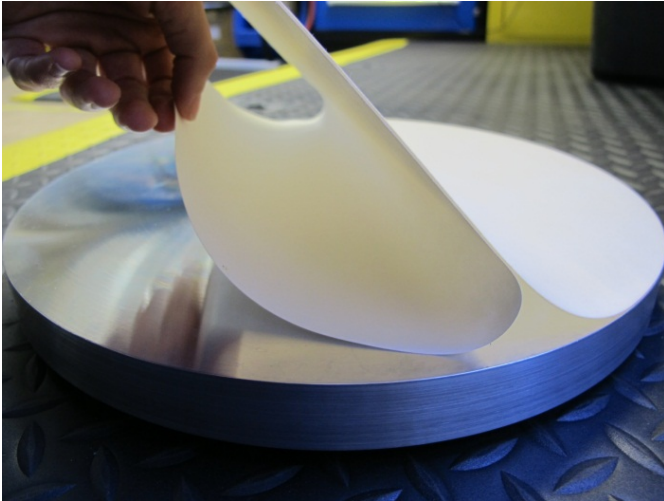

Figure 8
- e. Line up the edges of the polishing pad and polishing plate. Press the pad down by sweeping your hand back and forth across it to prevent from bubbles forming under it (Fig. 8).